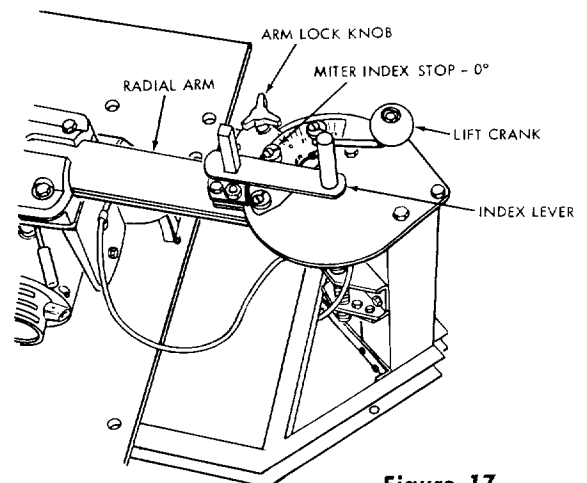

Figure 17
- a. Loosen the arm lock knob (figure 17), if not already loose, and move the radial arm to the left until the index lever stops against the miter (0°) index stop. Hold the arm lightly against the stop and tighten the arm lock knob.